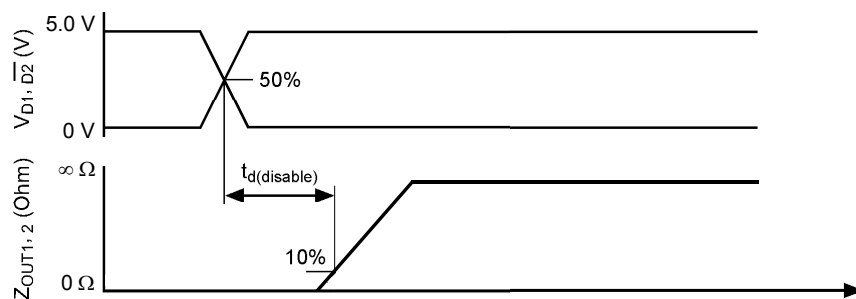

Figure 3. Disable Delay Time
24. Output Delay is the time duration from the midpoint of the IN1 or IN2 input signal to the 10% or 90% point (dependent on the transition direction) of the OUT1 or OUT2 signal. If the output is transitioning HIGH-to-LOW, the delay is from the midpoint of the input signal to the 90% point of the output response signal. If the output is transitioning LOW-to-HIGH, the delay is from the midpoint of the input signal to the 10% point of the output response signal. See Figure 3.
27. Disable Delay Time is the time duration from the midpoint of the D (disable) input signal to 10% of the output tristate response. See Figure 3.